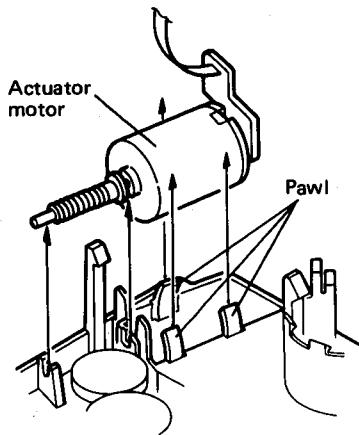
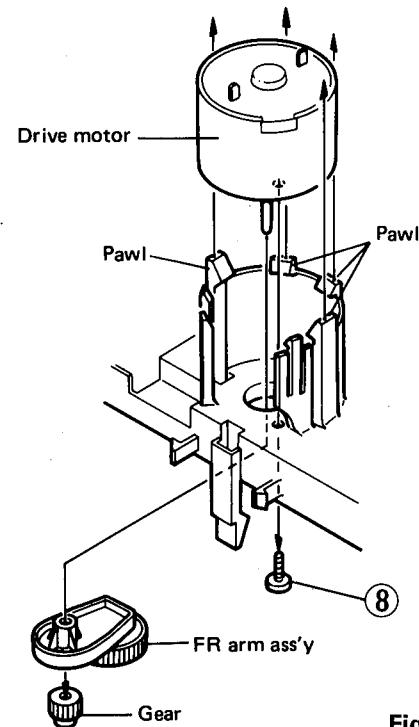

Fig. 2-15
Fig. 2-18
■ **Actuator motor assembly (Fig. 2-15)**
■ **Drive motor (Fig. 2-15, Fig. 2-18)**
- 2) Remove one screw ⑧ retaining the drive motor.